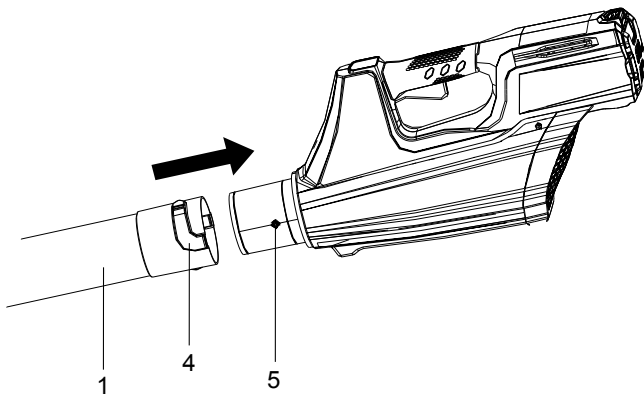

Fig. 3
- Align either of the grooves (4) in the tube with the tabs (5) on the blower housing. Push the tube into the blower housing until the tab engages the grooves. See Figure 3.